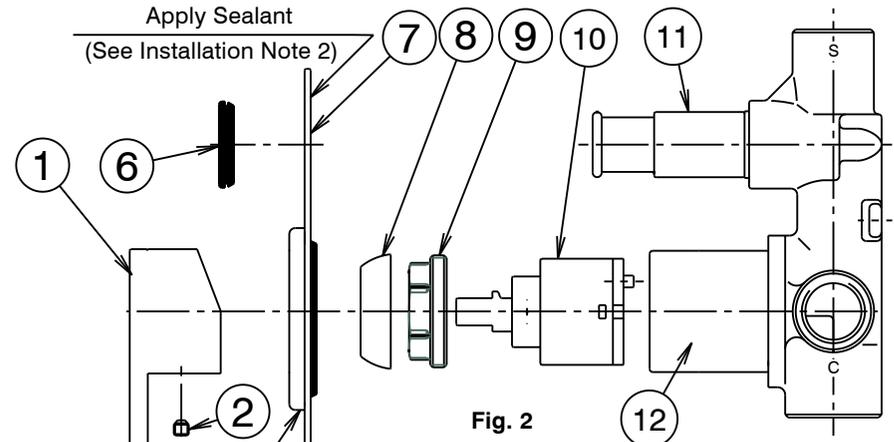
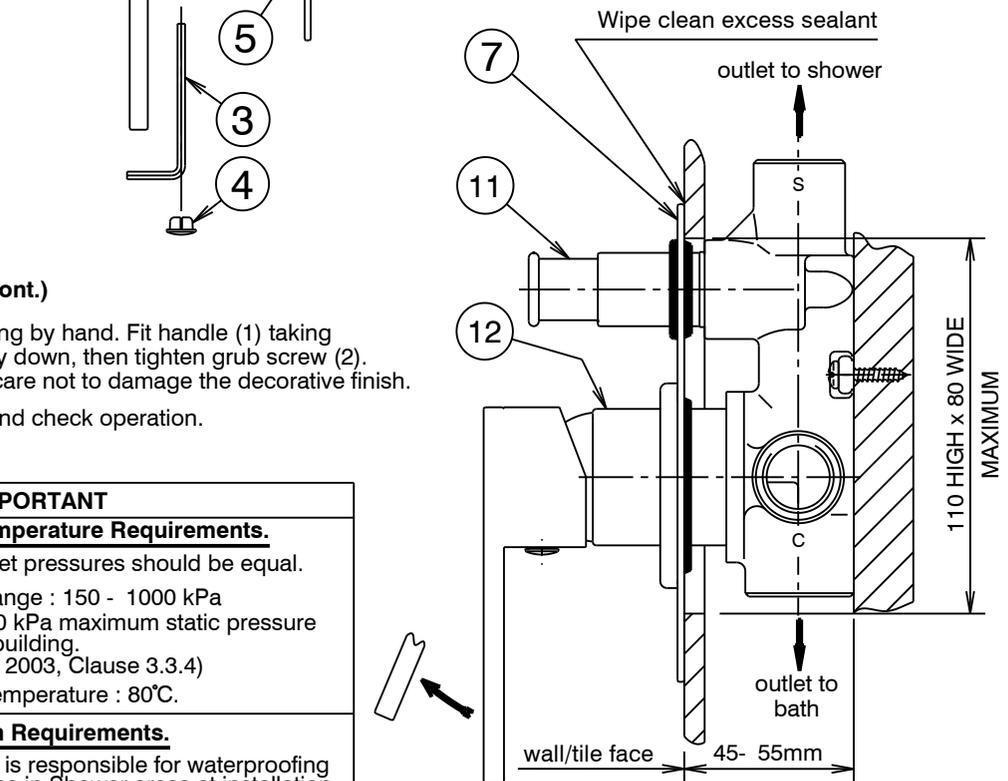

Fig. 2
Fig. 1
Installation (Fig. 1 & 2)
- * Mixer body (12) must be installed square to wall/tile face, to ensure cover plate (7) sits flush.
- 2) Ensure seal (6) is fitted in cover plate (7). Apply a suitable clear sealant to the back face of the cover plate (7) to prevent water from entering the wall cavity, leaving an unsealed section at the bottom for drainage. (See Fig. 2). Carefully slide the cover plate (7) together with trim cover (5) & seal (6) onto the diverter sleeve (11) and mixer body (12), push firmly on the trim cover (5) & seal (6) until cover plate (7) contacts the wall/tile face & sealant has formed a waterproof joint. Wipe clean any excess sealant from the chrome surfaces & the wall/tile face. (See Fig. 1)
- 3) Fit handle (1) as shown, taking care that it is pushed fully down, then tighten grub screw (2) using 2.5mm allen key (3). Insert plug (4) taking care not to damage the decorative finish.
Replacing Cartridge (See Fig. 2)